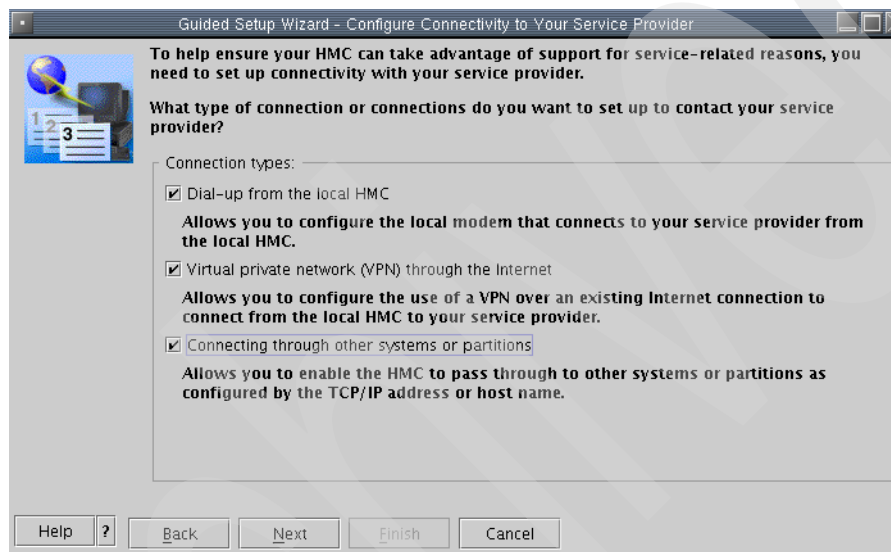

Figure 4-32 Guided Setup wizard - Configure Connectivity to Your Service Provider
31. The Guided Setup Wizard - Configure Connectivity to Your Service Provider panel is now displayed (Figure 4-32). You can select by which communications method you wish to connect to IBM (call home) for service and support related functions. There are four service applications available on the HMC: